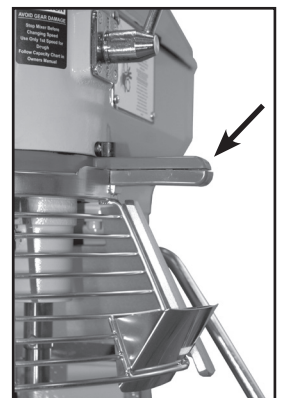

fig. 7-1
1. When the separated handles are lined up together and pushed securely to the right of the mixer, the bowl guard is in the locked position and ready to operate (fig. 7-1)